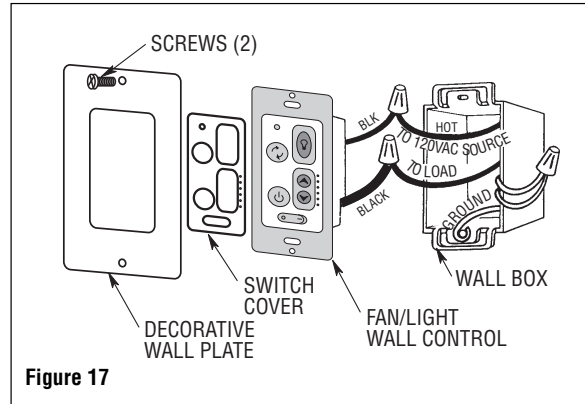

Figure 17
4. Connect one black wire of wall control to the "hot" wire. Securely connect wires with wire connectors supplied (Figure 17).
7. The wall control is supplied with a white, ivory, and almond color switch covers. Choose the finish that best suits your needs and snap the cover onto the wall control (Figure 17).
8. Install decorator wall plate using the two screws provided with wall plate. Leave wall control in "OFF" mode until fan installation is completed (Figure 17).